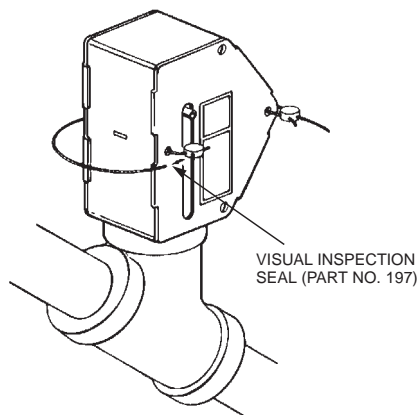

FIGURE 1
8. Reinstall side covers to gas valve housing. Make certain lock pin is positioned within both sides of the valve housing slot. Connect visual inspection seals (Part No. 197) on Ansul type valves. See Figure 1.